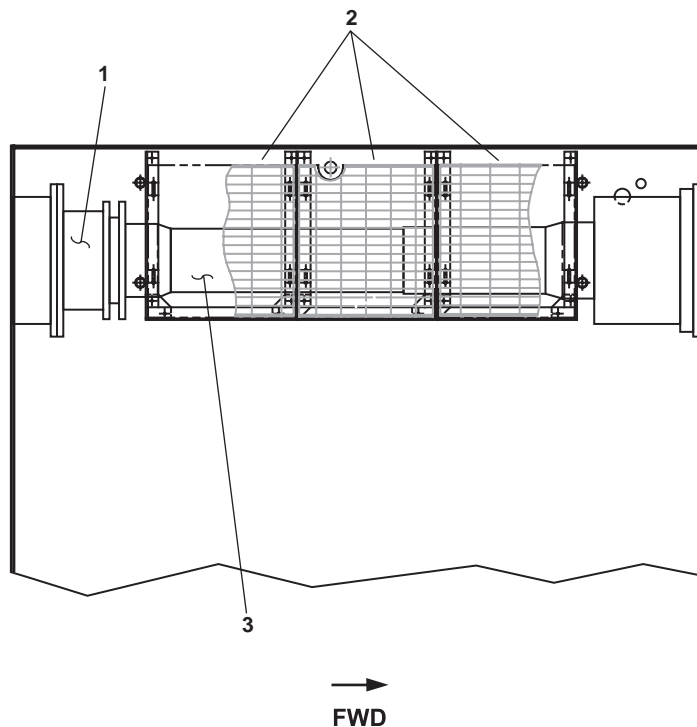

Figure 1. Starboard Shaft Alley
1. Starboard shaft seal (figure 1, item 1). The starboard shaft seal prevents raw water leakage from around the propeller shaft.
2. Grating (figure 1, item 2). Grating is provided to permit personnel access into the starboard shaft alley while the vessel is underway.
3. Starboard propeller shaft (figure 1, item 3). The starboard propeller shaft transmits torque between the reduction gear and the propeller.